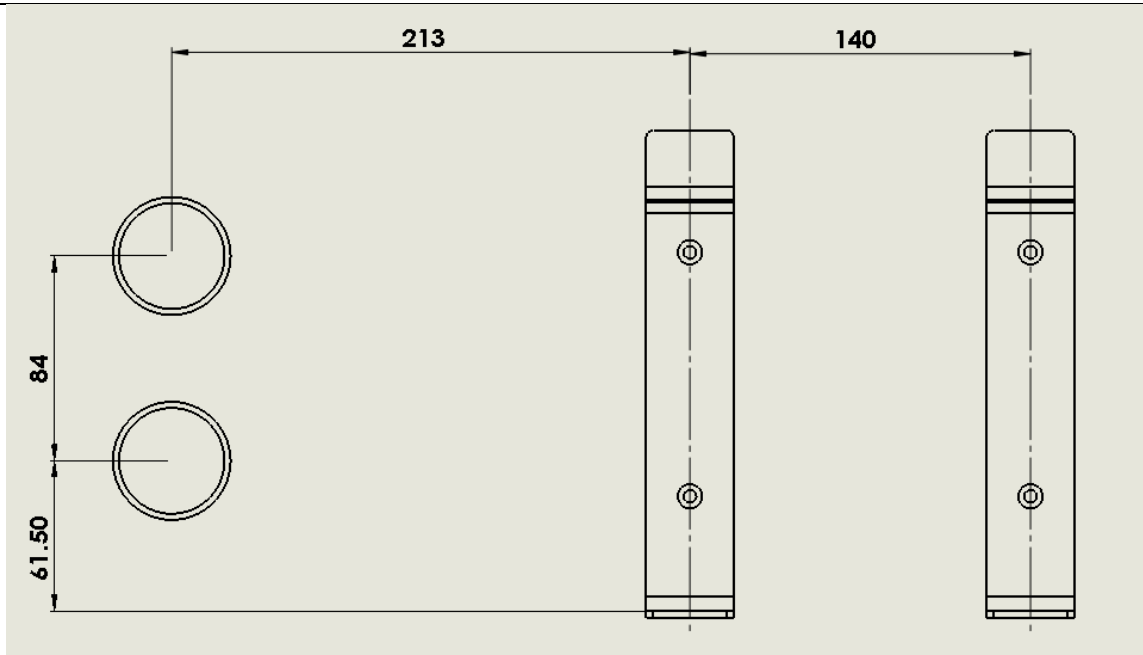

Figure 10 Bracket Template Dimensions
5. The centreline of the first bracket should be minimum 213 mm from centreline of the pipe. Refer Figure 10.